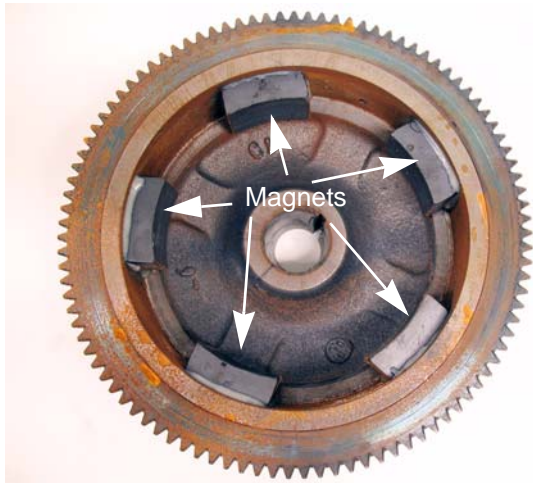

Figure 6.14
- Alternator rotor: The rotor consists of five magnets on the inside of the flywheel that rotate around a stator that is mounted to the cylinder block. As the crankshaft and flywheel rotate, the moving magnets induce a charge in the stator. See Figure 6.14.